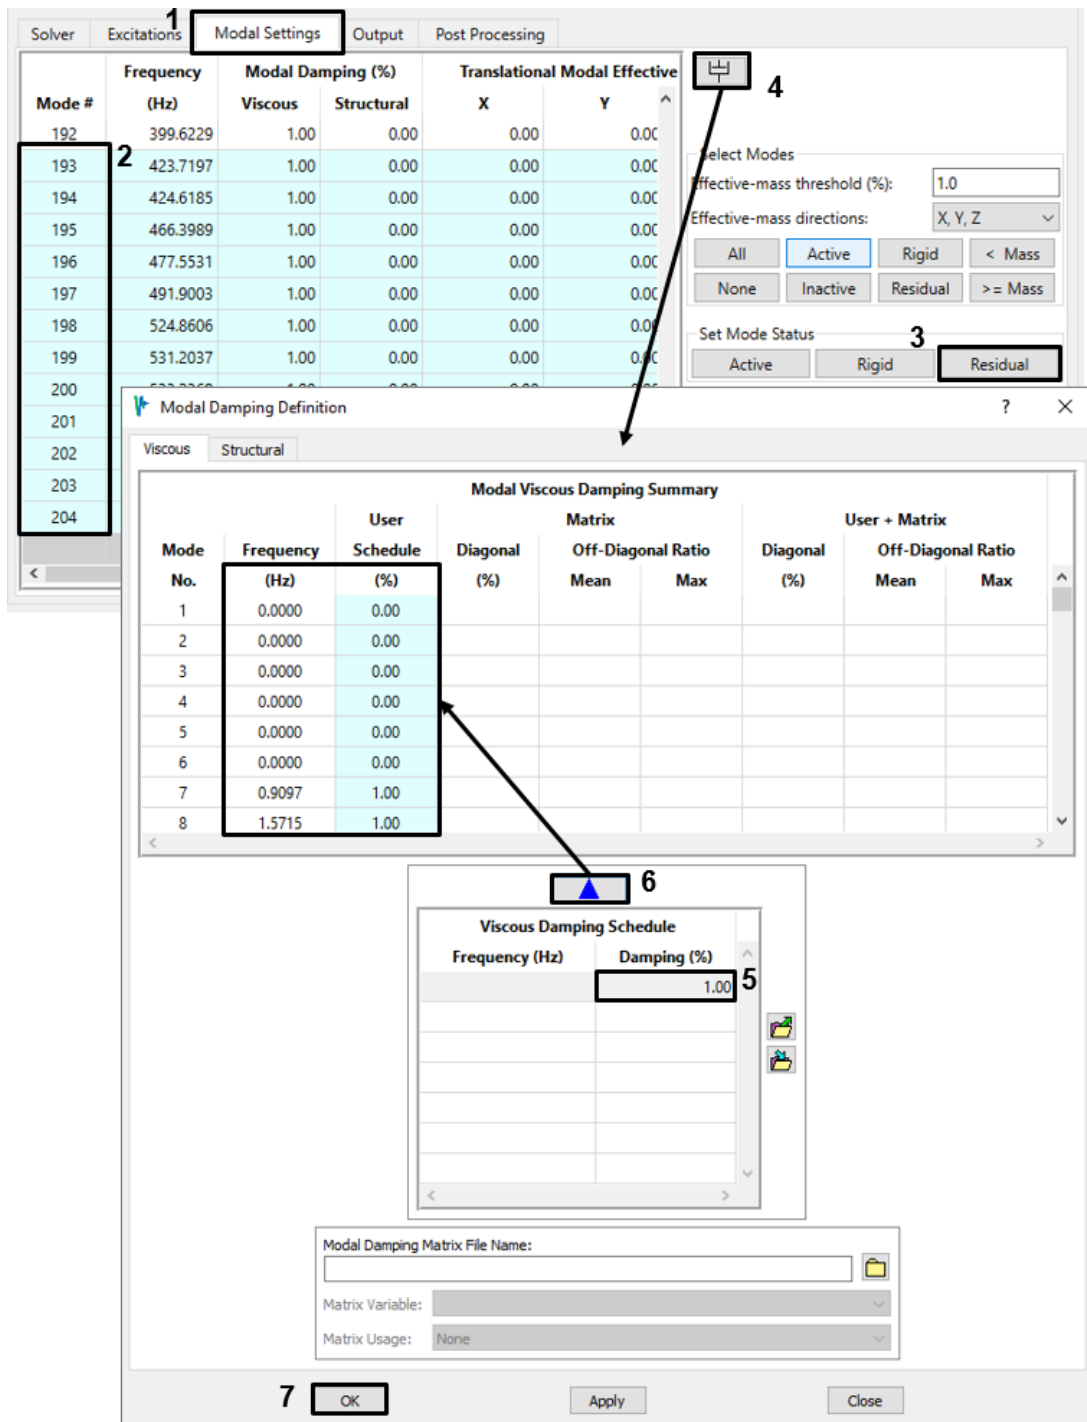

Figure 4-98. Use the damping schedule to assign 1% damping to all flexible modes.
6. Go to the *Modal Settings* tab. Make sure to designate the modes above 400 Hz as residual vectors and then set the damping. This model has too many modes to set individually, so bring up the damping dialog and use its damping schedule to set the damping of all modes to 1% (Figure 4-98). Rigid body modes will remain at 0% damping.